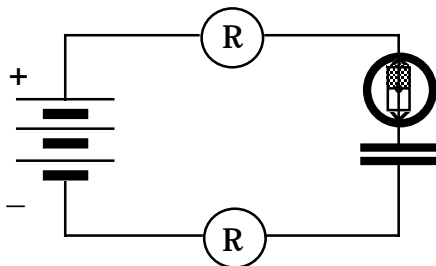

Figure 2.5a
Look at Figure 2.5a, but don't assemble the circuit yet. It's the same circuit you've been using, but with a capacitor added between the two bulbs. (Remember that an "R" inside a circle represents a round bulb.) Note that the compass is under the wire, and is not connected to the circuit.
Assemble the circuit illustrated in Figure 2.5a using the blue capacitor from your kit, but leave a break somewhere in the circuit. Position the compass under the wire and **be sure to orient the wire so that it is parallel to the needle.**
3. Draw an arrow(s) on Figure 2.5a to show where and in what direction charge moves during the charging process.